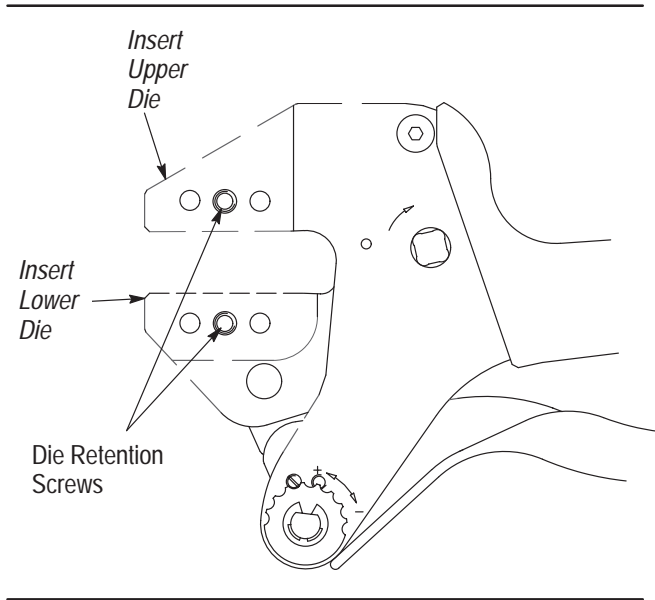

Figure 2
3.1. Installation of Shouldered Dies (Figure 2)
NOTE Die assemblies with center contact crimp sections should be installed with the center contact crimp section toward the front of the tool jaws as shown in Figure 2. If indicated otherwise in other instructions, follow the specific die requirements demonstrated in that document.